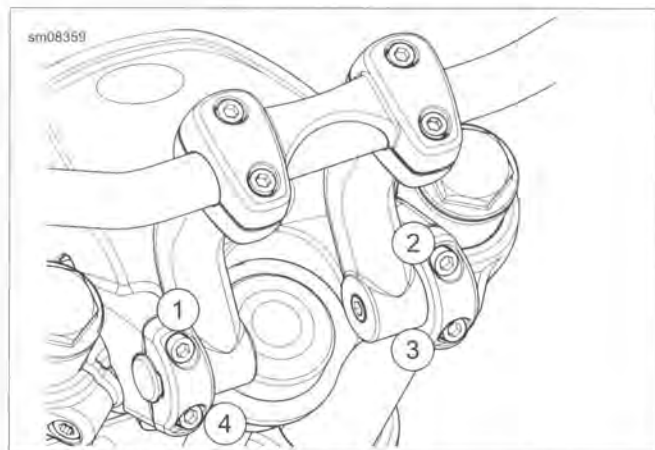

Figure 2-134. Riser Torque Sequence: FXDL
4. See Figure 2-134. Tighten screws in sequence shown to 12-16 ft-lbs (16.3-21.7 Nm).